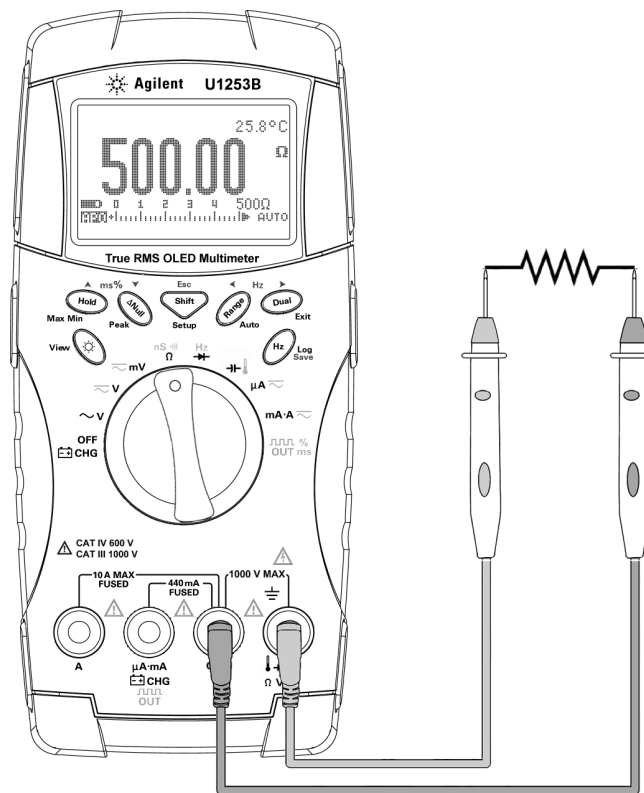

Figure 2-8 Measuring resistance
- 2 Connect the red and black test leads to input terminals Ω (red) and COM (black) respectively (see Figure 2-8 on page 42).